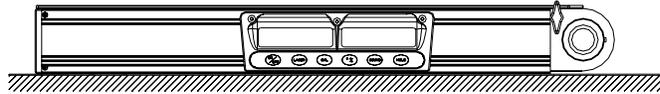

Figure 7
(1) Put the instrument against the side A, as shown in figure 7. Install into the battery, and press the first key (from left to right), i.e. ON/OFF key. Then, notice the LCD display (left), wait 10 seconds till the displayed data stable and record the angle value.
(1) Place the instrument according to the step 1 of 0 degree check (as shown in figure 7). Power on and press “Zero calibration” key once, i.e. the third key (from left to right) with a “CAL” sign. Then the LCD will display “-0-” (figure 15)